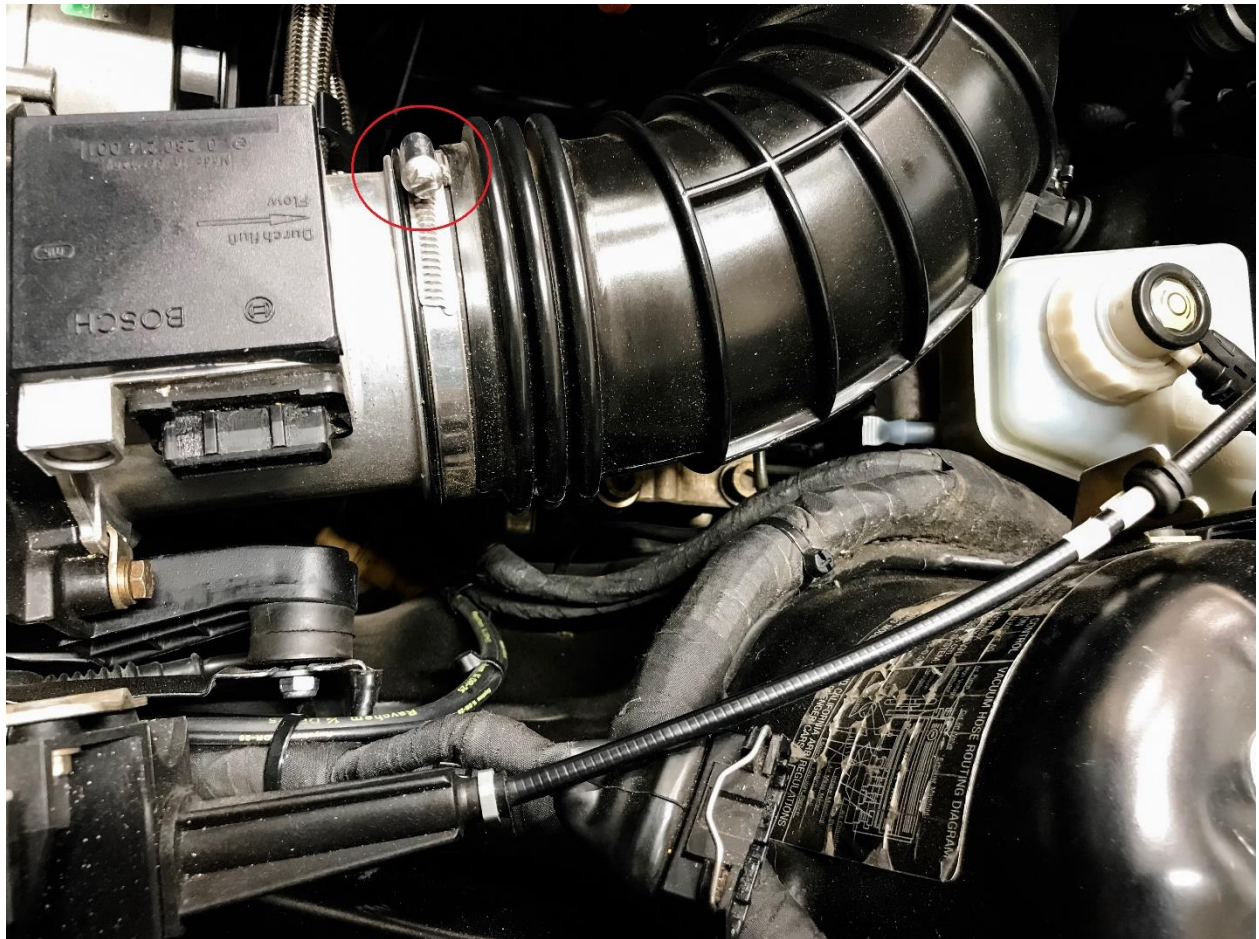

Figure 6
5. Next loosen hose clamp that secures main intake boot to MAF by using flat head screwdriver, ensure that intake boot can be slid off of the MAF. See Figure 6 (S38B36 shown).